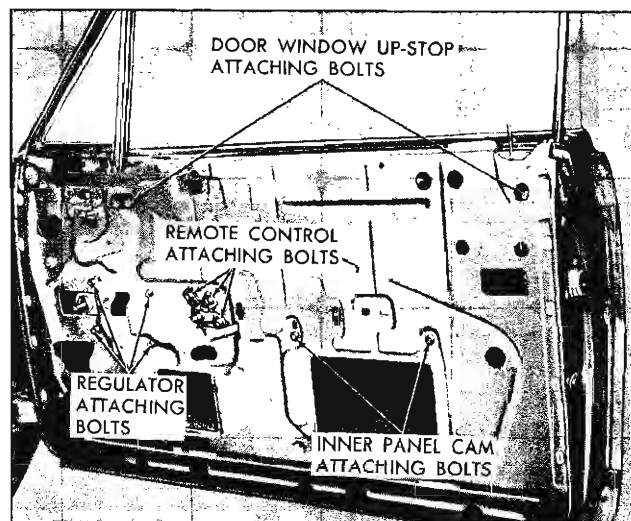

Fig. 27—Front Door Hardware—Hardtop Styles
2. Remove bolts securing door inner panel cam assembly and disengage cam from regulator balance arm and remove cam from door (fig. 27).
2. Remove remote control attaching screws and disengage remote control from connecting rod (fig. 27).
2. Through holes in inner panel, remove screw securing window assembly front and rear stops to lower window sash channel. Then lower window slightly and remove stops (fig. 27).